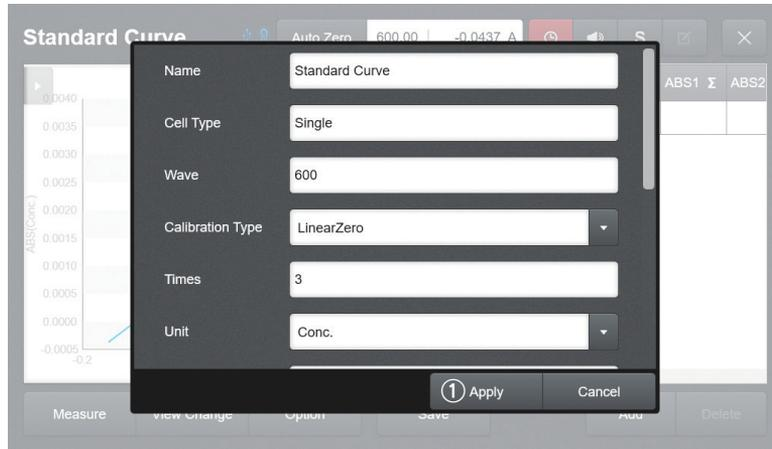

Fig. 4.14
4. [Fig. 4.14] Select and enter the Name, Cell Type, Wavelength, Calibration Type, Times, Unit, Memo, and View Change, then press ① **Apply**.
5. [Fig. 4.14] Press the ⑤ **Add** button and enter the density of the standard sample.